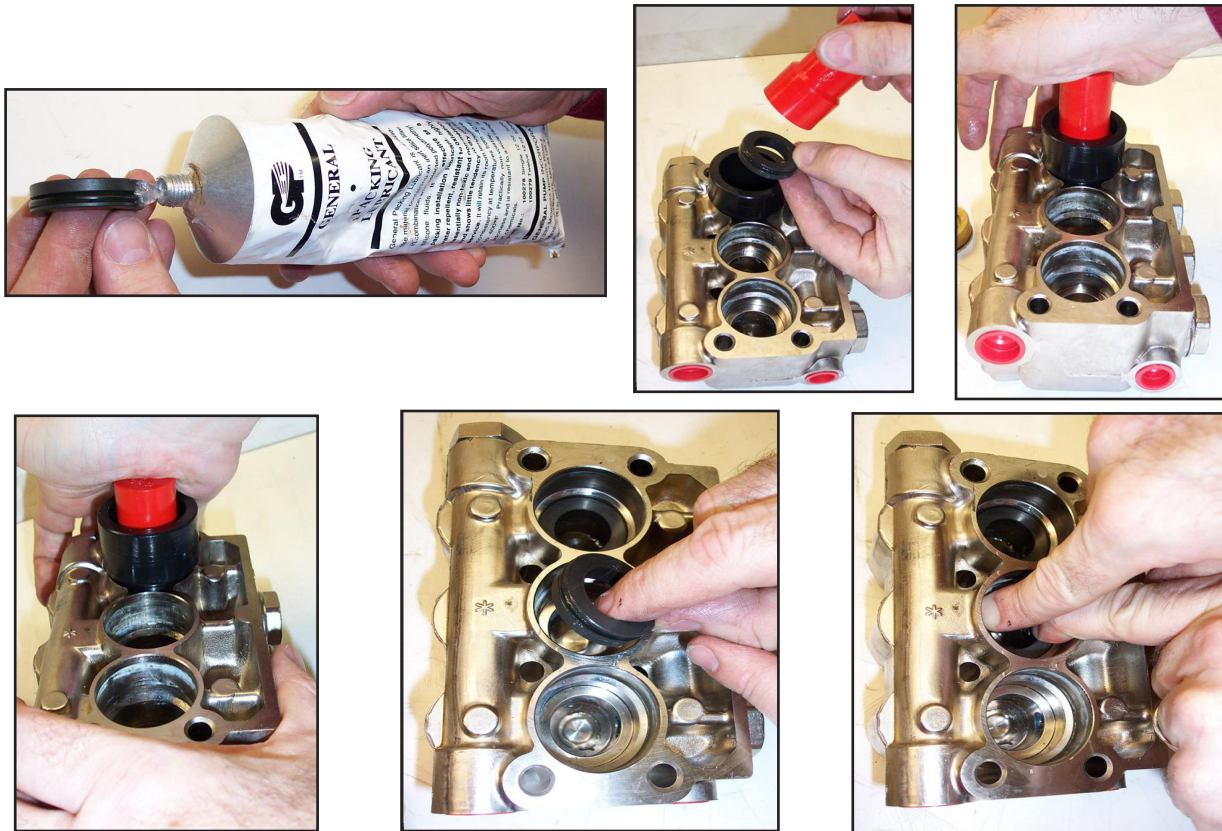

Figure 5-13. Install Seal Assembly Using O-Ring Grease
4. Apply a film of grease on the O-ring on the brass retainer (see Figure 5-13).